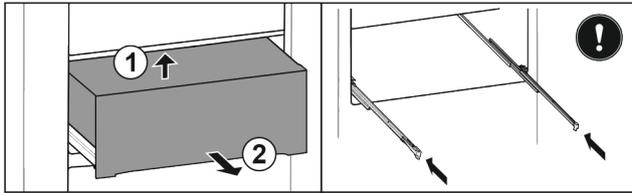

Fig. 36\*
- ▶ Lift it up at the back from below Fig. 36 (1).
- ▶ Take out to the front Fig. 36 (2).